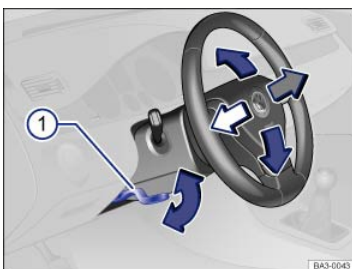

Fig. 48 Manual adjustment for the steering wheel position.
- Push down on the lever ⇒ Fig. 48①.
- Always pull the lever ⇒ Fig. 48① firmly upward after adjusting the steering column so that the steering wheel does not change position suddenly while the vehicle is moving.